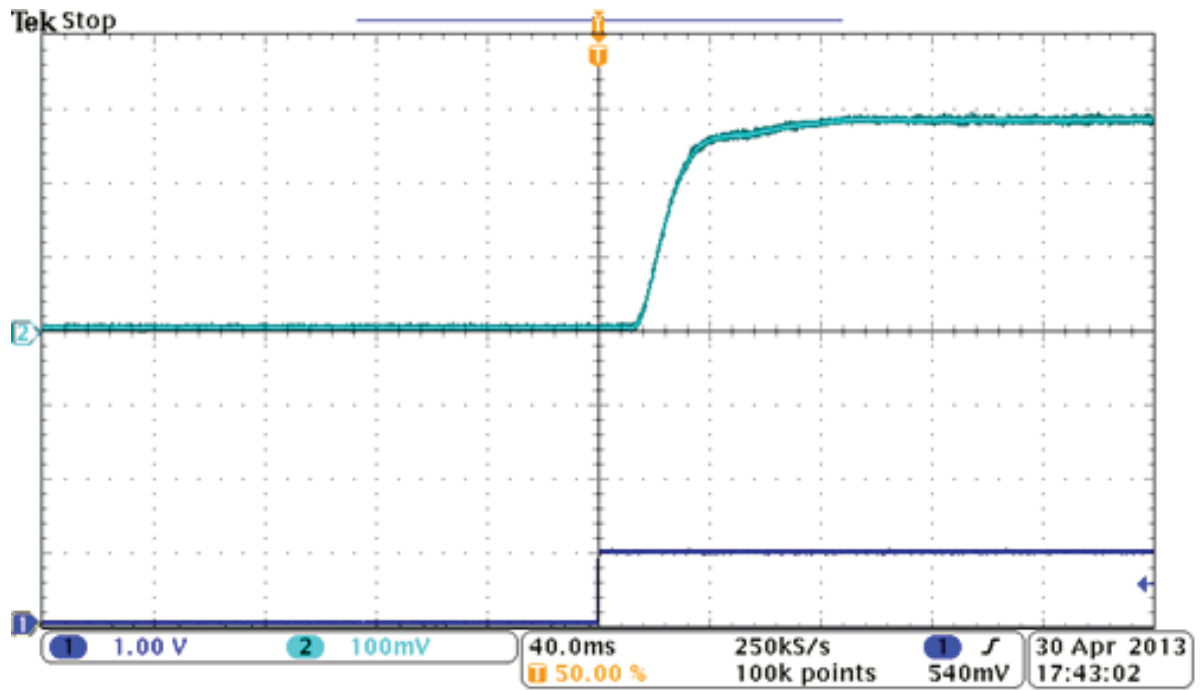
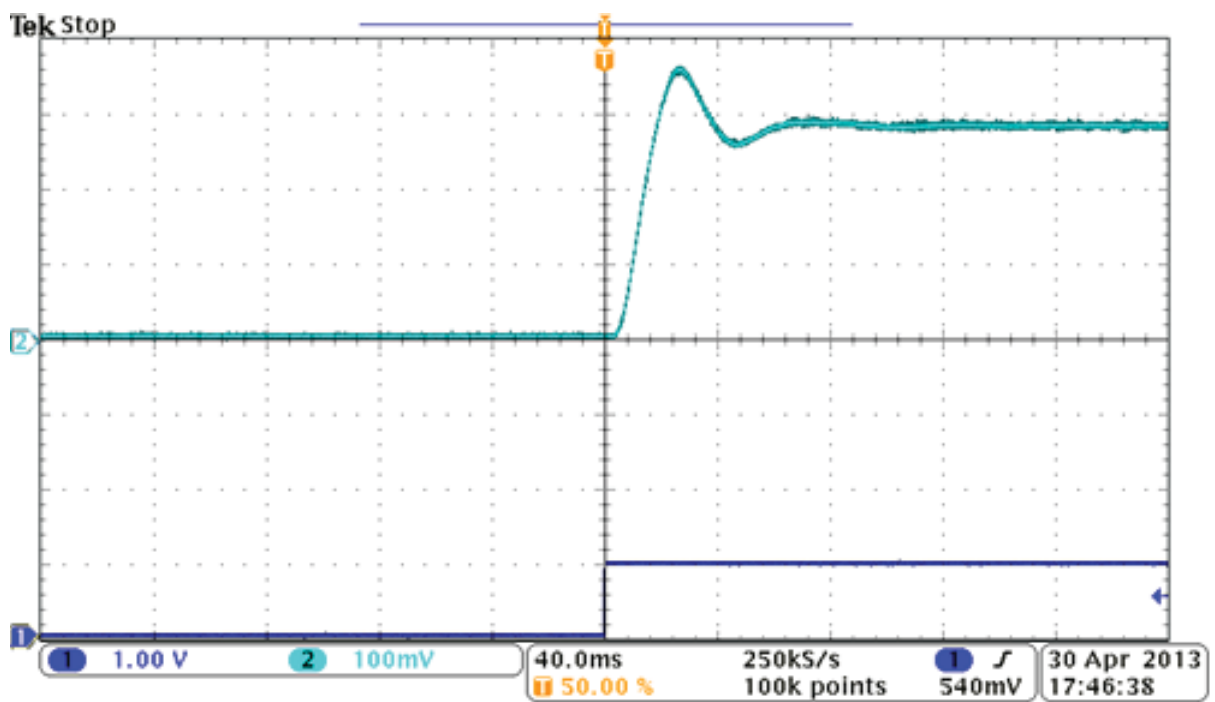

Figure C-4. Step Response with $K_P = 3$; $K_I = 13$; $K_D = 1$; $K_T = 64$
Figure C-5. Step Response with $K_P = 3$; $K_I = 20$; $K_D = 1$; $K_T = 64$
5. Refer to Figure C-4 and Figure C-5. These illustrate typical results.